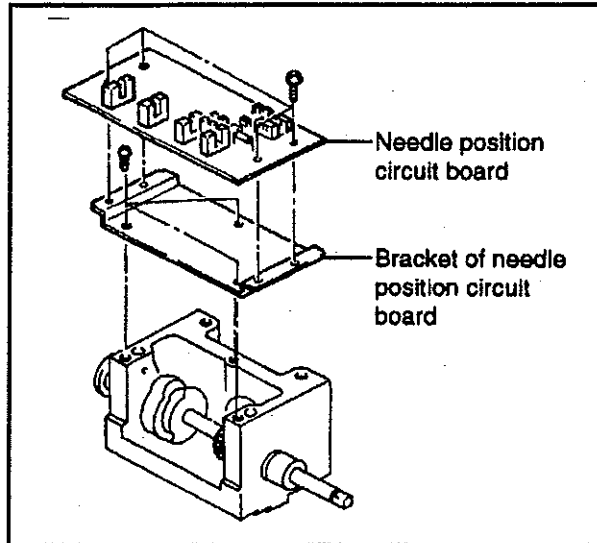

FIG.6
- (8) Secure the needle position circuit board with four retaining screws (e) (Fig.6). (Refer to "4-15 Needle position circuit board" on page 64.)